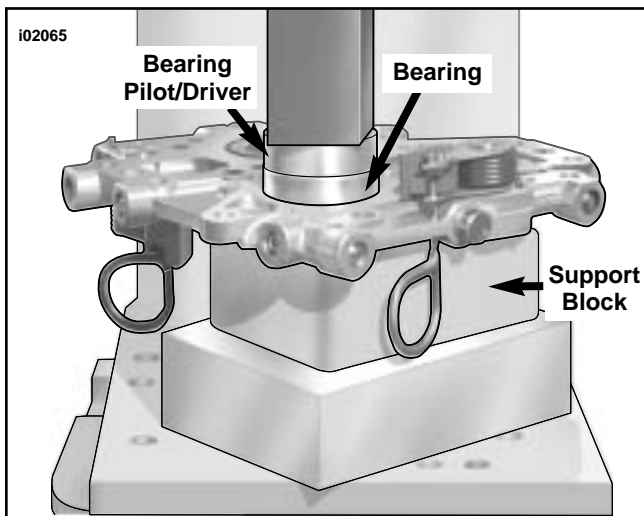

Figure 5. Press Bearings into Cam Support Plate
d. See Figure 5. Center bearing driver under ram of arbor press. Press on driver until bearing makes firm contact with counterbore in cam support plate. Repeat Steps a through c to install second bearing.